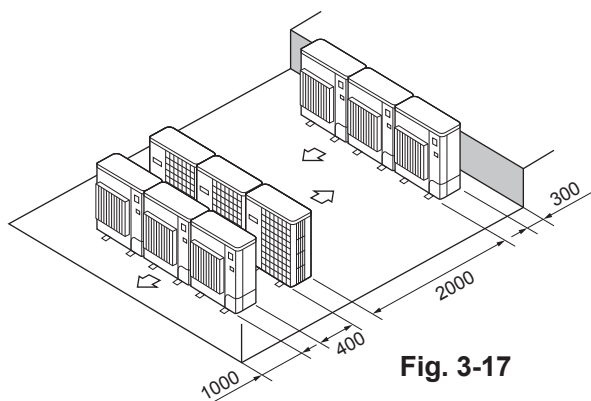

Fig. 3-17
- ⑥ Multiple parallel unit arrangement (Fig. 3-17)